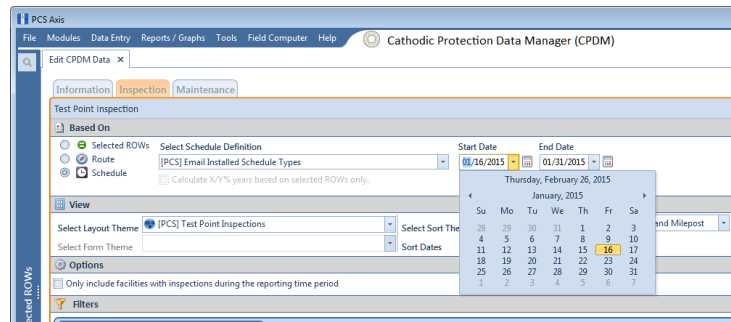

Figure 7-45. Start Date Field Calendar
- a** Set a schedule start date. Type a date in the **Start Date** field or click the down arrow and select a date using a calendar (Figure 7-45).